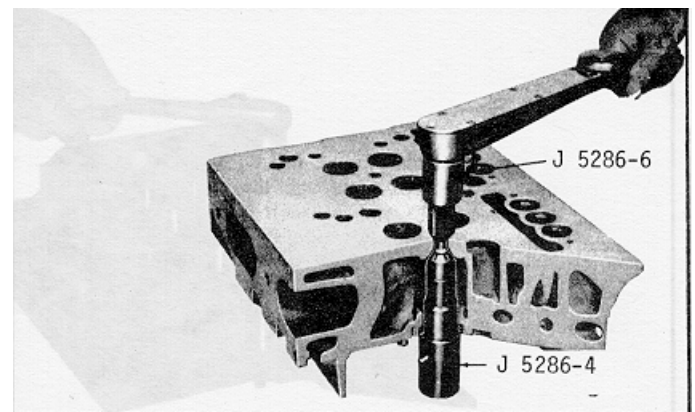

Fig. 3 Upsetting Injector Tube
- (a) Turn the cylinder head bottom side up, remove the pilot J 5286-5 and thread the upsetting die J 5286-6 into the tapped end of the installer J5286-4 (Fig. 3).